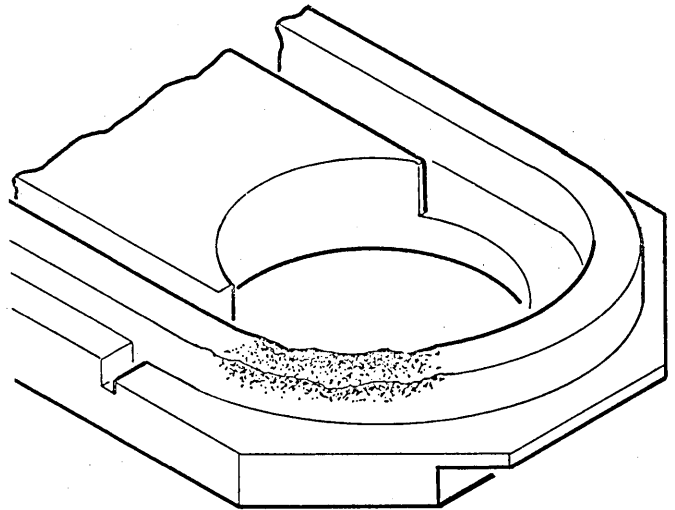

Figure 4-48. Type Rail End (Left)
- c. Check the cams (curved portion of rails) for wear on the inner circumference and top portion of the leading corners (Figures 4-48 and 4-49). The rails should be shiny. A brownish stain indicates excessive heating due to lack of lubrication.